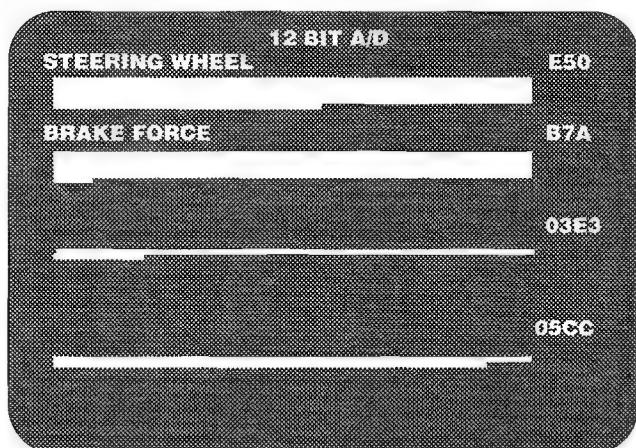

Figure 2-19 Pots: 12-Bit Screen
- The *Steering Wheel* force and *Brake Force* under the heading *Pots: 12-Bit* feed into the 12 Bit A/D converter circuit on the main PCB. (See Figure 2-19.) These lines measure the force with which the steering wheel is turned and the brake is pushed.